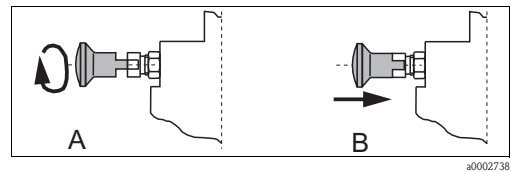

Fig. 21: Stop bolt
4. Turn the stop lock bolt through 90° so that the plastic grooves are located above the recesses (Fig. 21, A).
5. Turn the retractable pipe **clockwise** until the stop lock bolt engages (B).